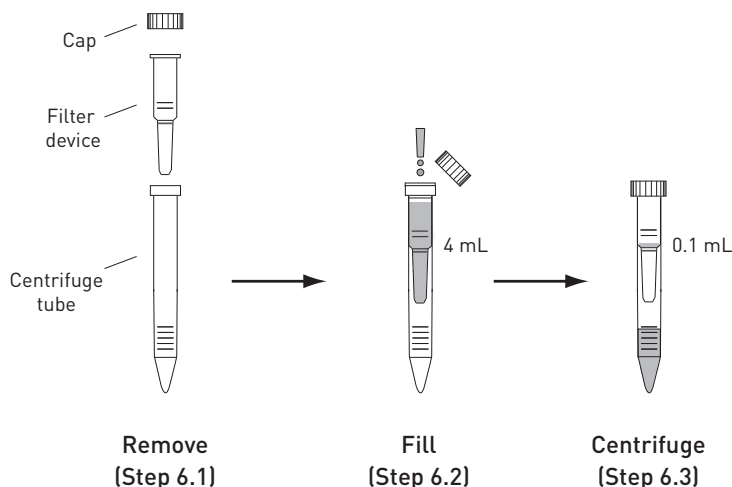

Figure 7 Wash the antibody concentrator
- 6.2 Add 4 mL of 1X Tris, pH 7.0 (or TBS) to the large antibody concentrator and replace the cap as shown in Figure 7.